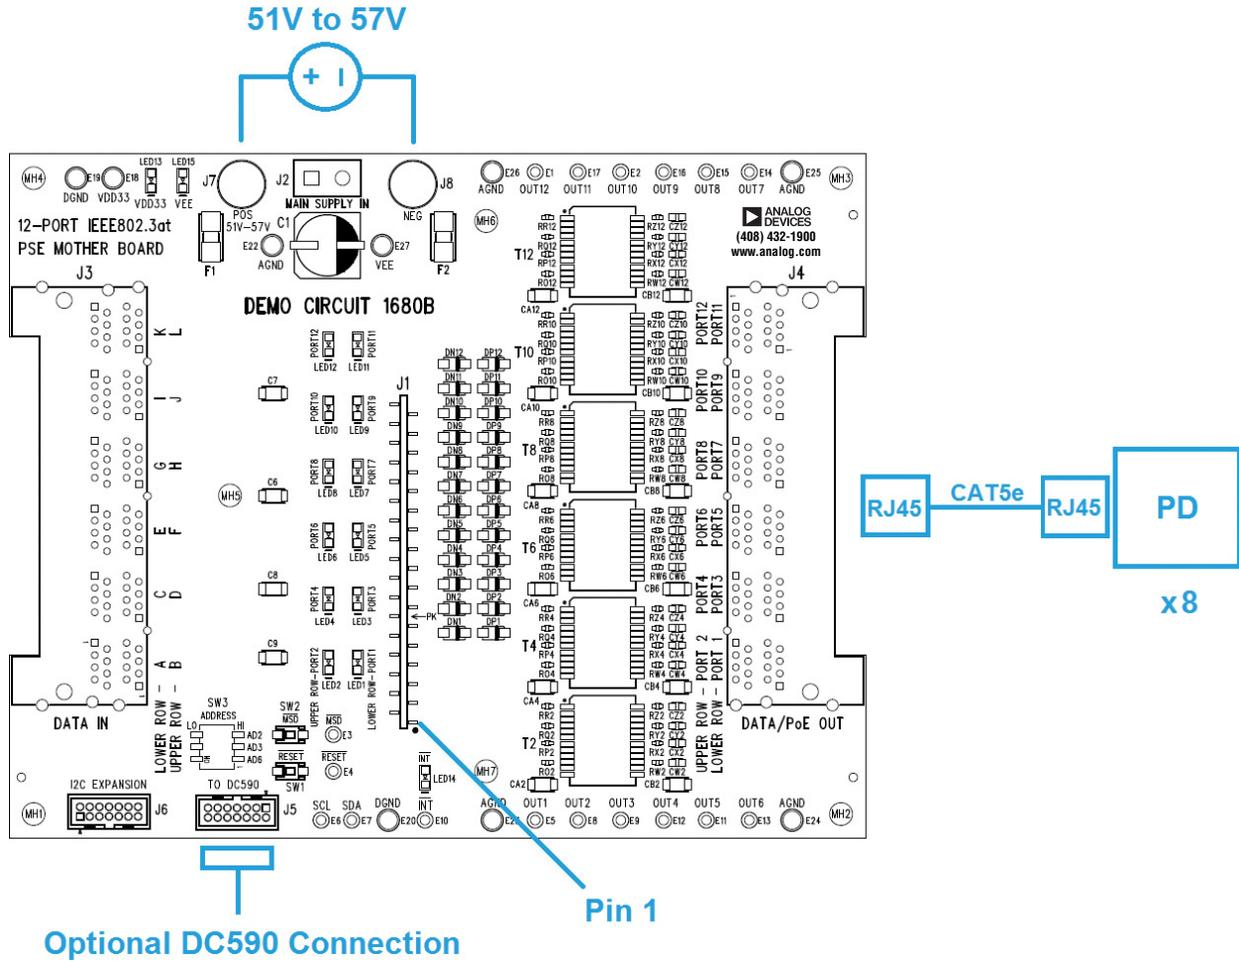
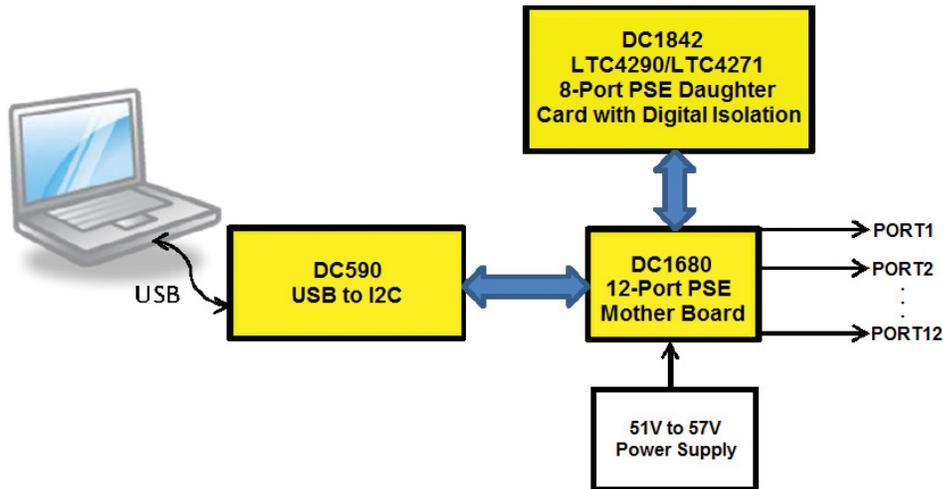

Figure 3. DC1843B Basic Setup
Figure 4. DC1843 System Setup with the DC590, DC1680, DC1842 and 51V to 57V Power Supply
4. On the DC1680B, connect a supply with the positive rail to POS and negative rail to NEG (Figure 3). Use a power supply capable of sourcing the maximum load expected ( $8 \text{ ports} \times 850\text{mA} \geq 6.8\text{A}$ ). Ramp the supply up to 51V to 57V.
5. Connect up to 8 PDs to ports 1-8 at the DC1680B, J4 (Figure 3).
6. The DC590 is optionally connected to the DC1680B connector J5 with a 14-pin ribbon cable (Figure 3). A GUI for the LTC4290B/LTC4271 is brought up by QuikEval for I2C interfacing from a PC (Figure 4).
Connect a power supply for VEE with the positive rail to POS and negative rail to NEG as shown in Figure 3 of the Quick Start Procedure. Set the voltage within the range in Table 1 depending on whether the application is a Type 1 or Type 2. Choose a power supply rating and set the current limit high enough to provide power for the maximum number of PDs connected and to meet each PD power requirements.
PDs are connected using an Ethernet cable to any of the 8 ports at the 2x6, RJ45 connector J4 on the DC1680B (Figure 3). Test points for port outputs OUT1 through OUT8 are provided.